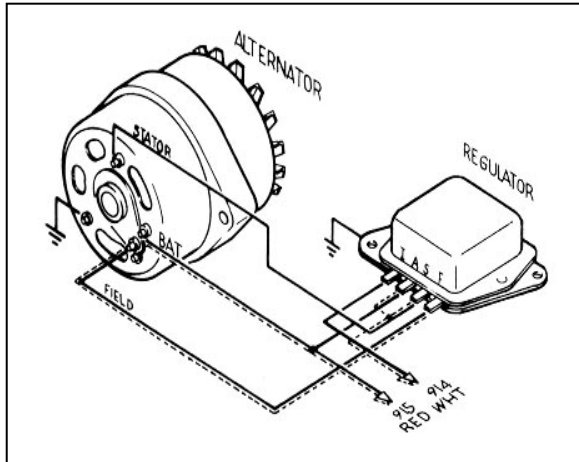

Figure 8-1A Ford Alternator (2 configurations)
- 8.1.5 An alternate (and less-used) method is to omit the Alternator Stator wire, install a 14-gauge jumper across Voltage Regulator terminals A & S, and connect wire #914 to either the A or S terminal of the Voltage Regulator. The FIELD wire and wire #915 are connected as above. Do **NOT** install a jumper as in Paragraph 8.1.2. The Voltage Regulator Ignition (I) terminal is not connected. Install ground wires as in Paragraph 8.1.4. This alternate configuration is illustrated in dashed lines in Figure 8-1A.